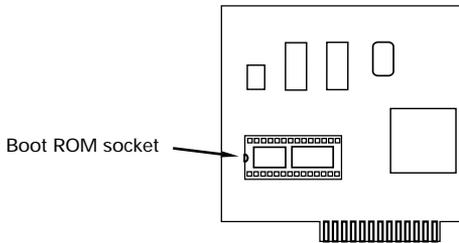

Figure 4-1 Boot ROM socket on the adapter
- 4 Gently press the ROM into the socket (see Figure 4-1). Be careful not to bend the pins.